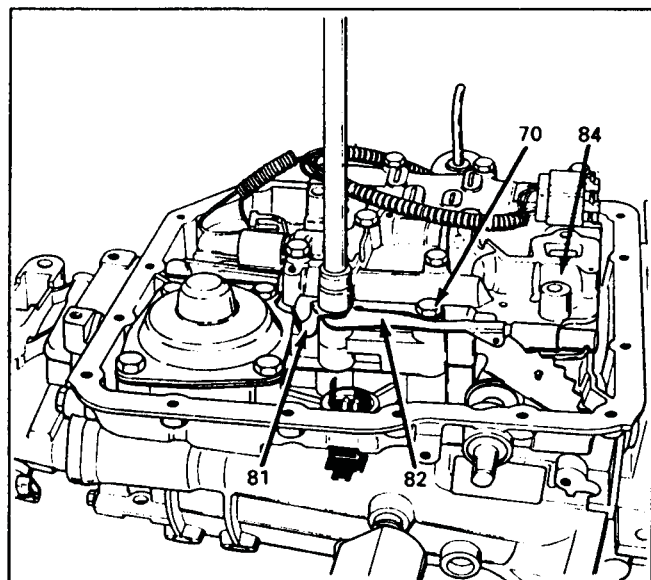

Figure 130
18. Install the manual detent roller and spring assembly, and wiring harness clip to the main valve body, as shown in Figure 130, and torque two bolts to 14 ft.lbs. using a 13mm socket.